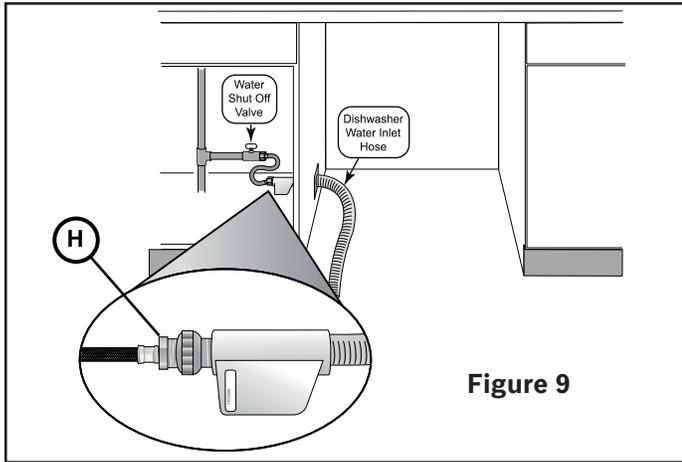

Figure 9
Install an easily accessible shut-off valve (not supplied) in the hot water supply line, as shown in **Figure 9**. All solder connections must be made before the water line is connected to the dishwasher.
1. Assemble the water supply adaptor fitting (H) from the parts bag onto the dishwasher water supply hose. This connection does not require Teflon brand tape.
3. Connect the dishwasher water supply line with adaptor to the water shut off valve. You will need to use an approved dishwasher water supply line with the correct fittings for this connection. Always use the appropriate seal when making plumbing connections. *NOTE: The end of the dishwasher water inlet hose is heavy and will need to be supported. It is best to lay the end on the cabinet floor as shown in Figure 9.*